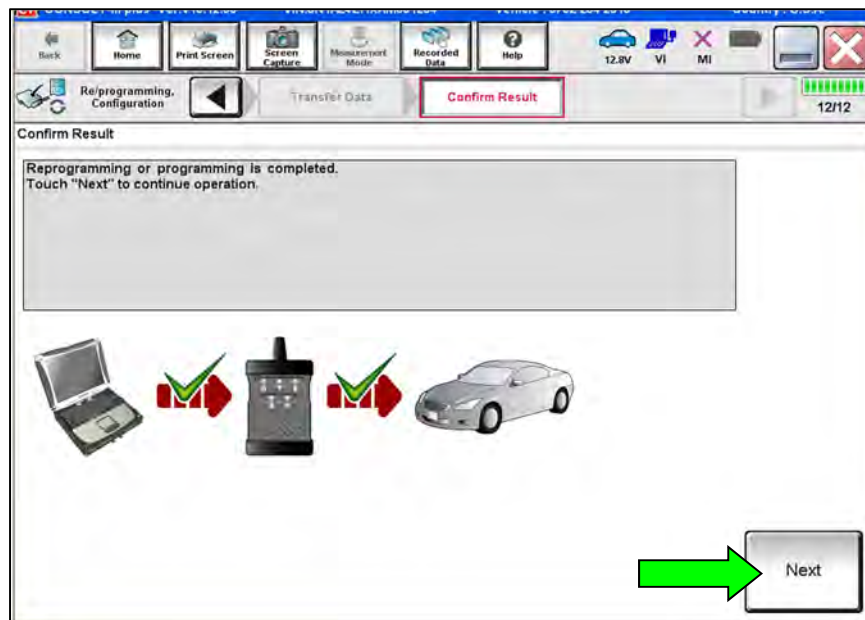

Figure 251
247. When the screen in Figure 251 displays, the reprogramming is complete.
**HINT:** If the screen in Figure 251 does not display (which indicates reprogramming did not complete), skip to **TCM RECOVERY** on page 130.